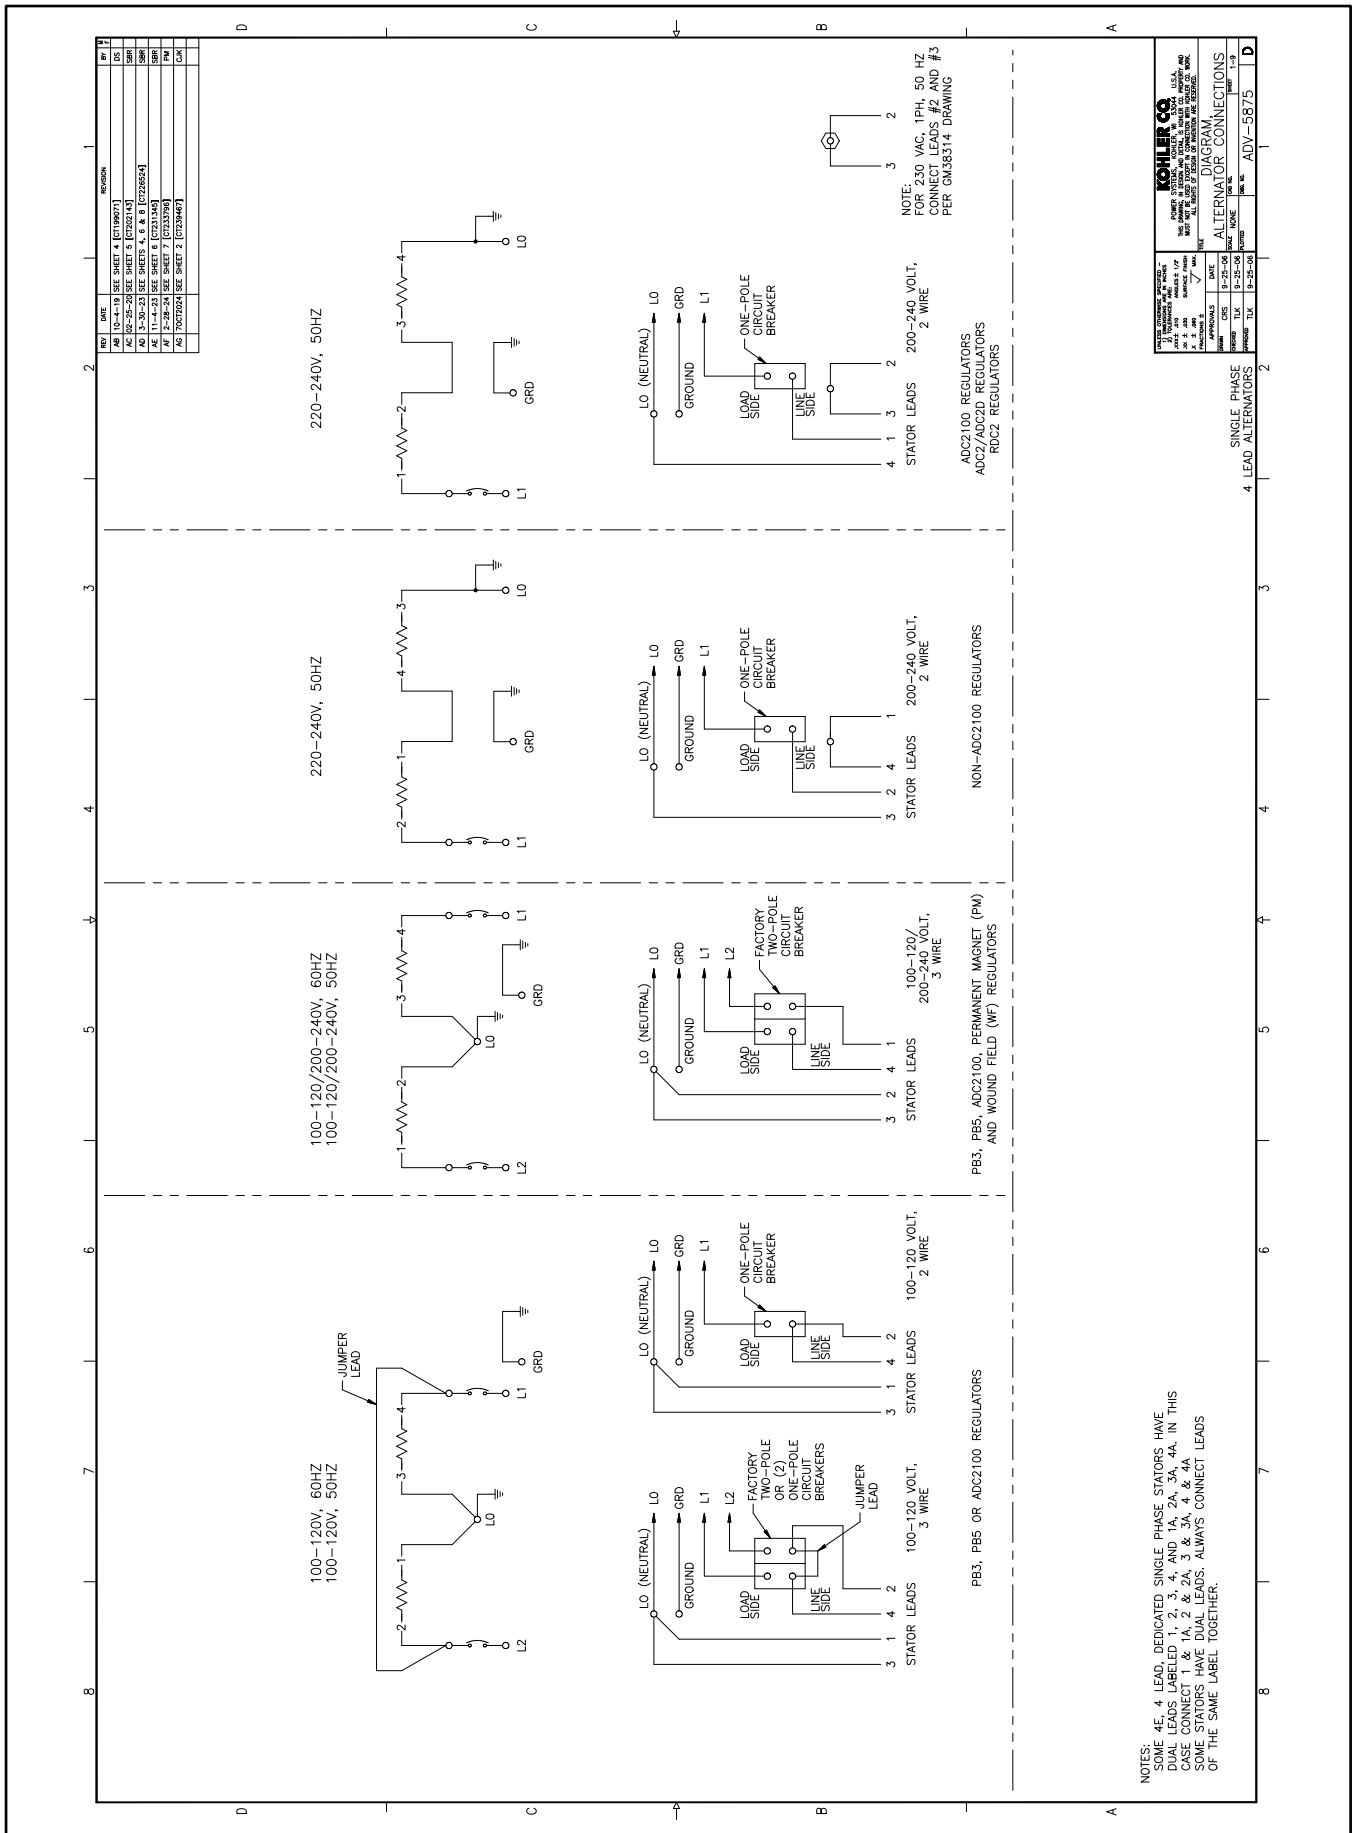
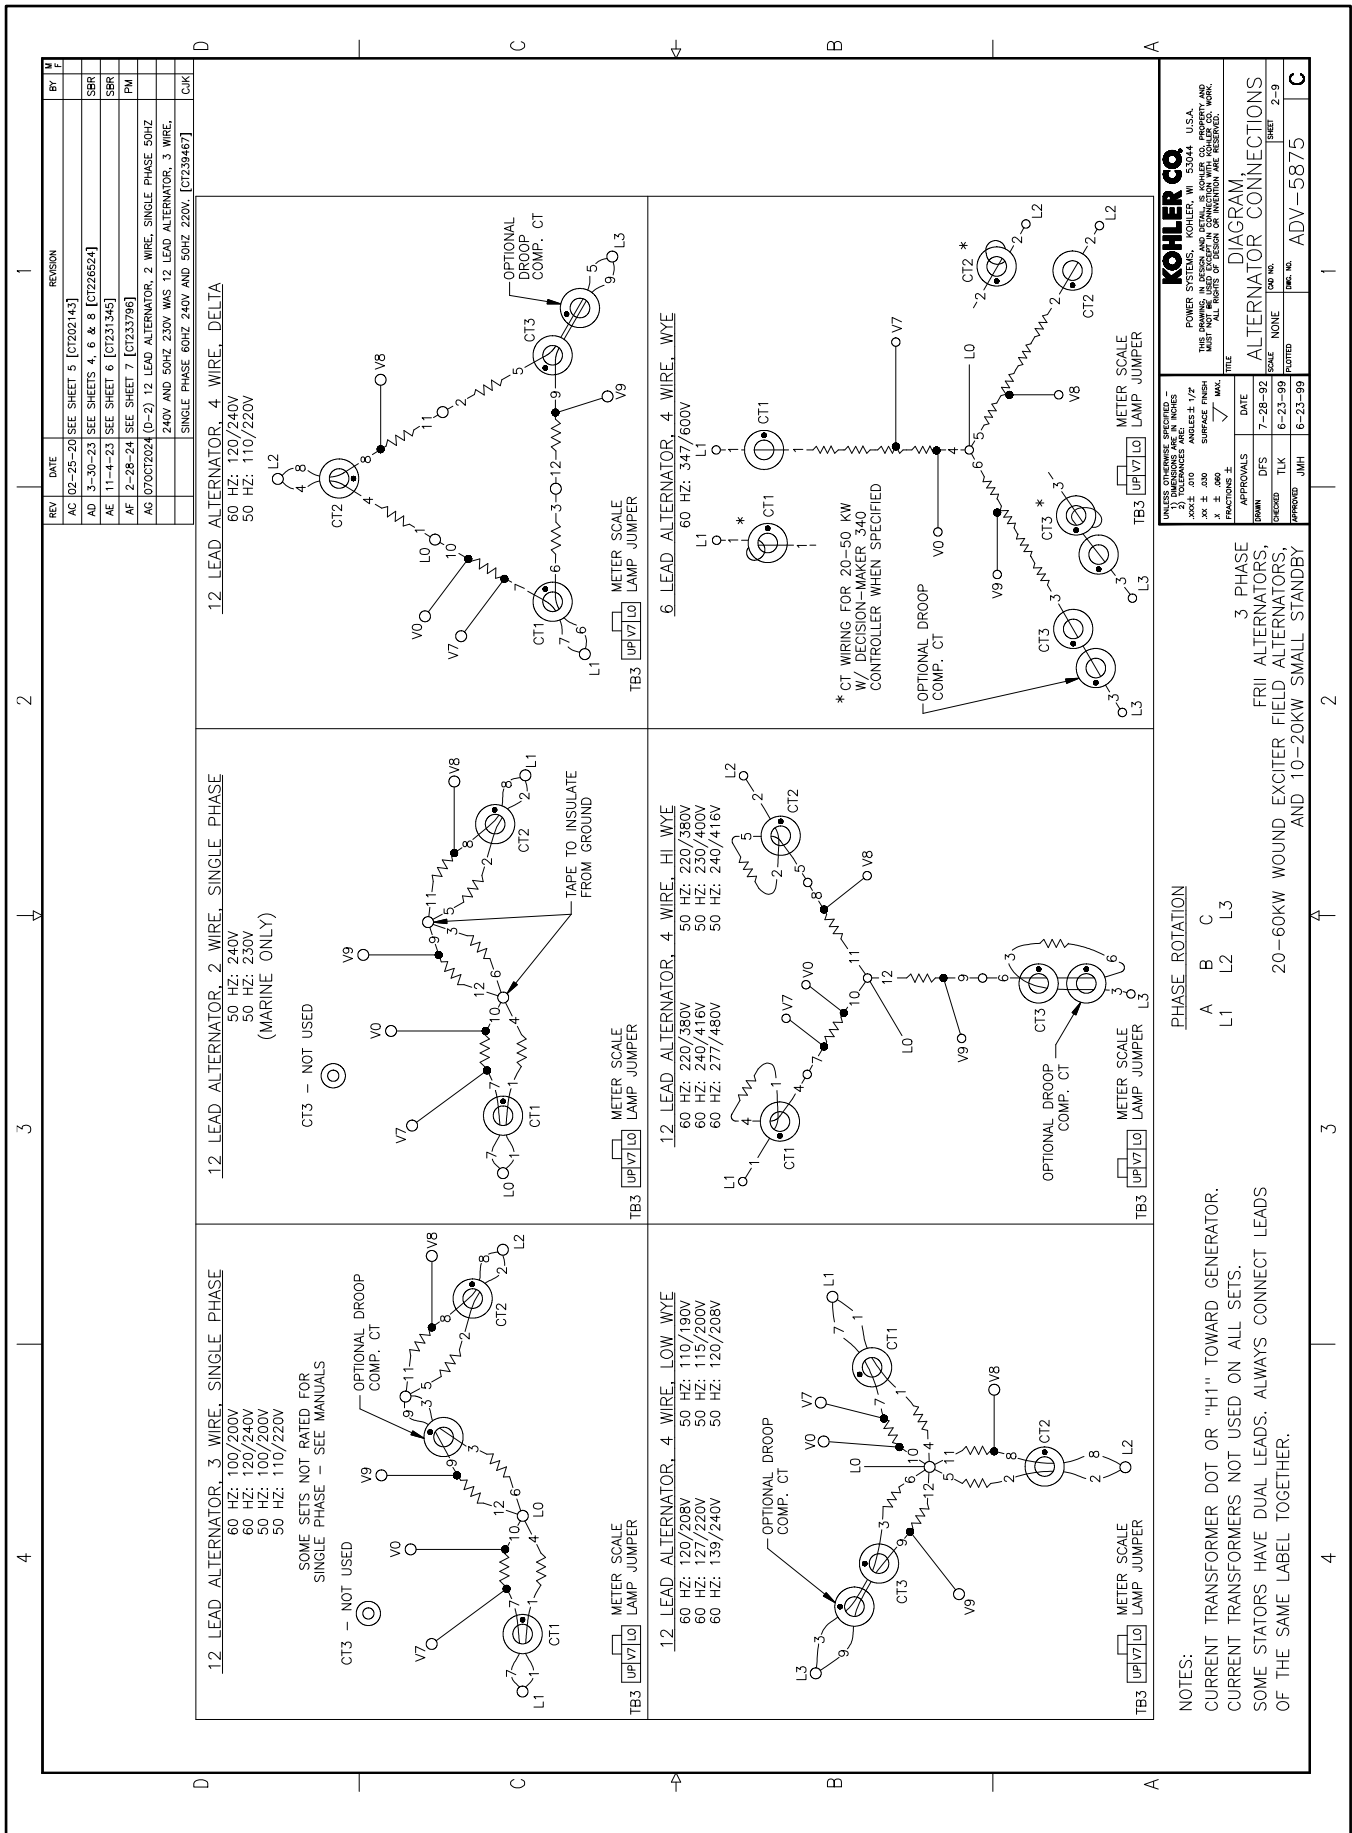

Figure 61 20-150 kW Permanent Magnet Single-Phase Alternators, ADV-5875AG-1
Figure 62 20-300 kW Permanent Magnet Alternators, ADV-5875AG-2
3. Use Figure 61, Figure 62, Figure 63, or Figure 64 to determine the generator set voltage configuration. Note the original voltage and reconnect as needed. Route leads through current transformers (CTs) and connect them according to the diagram for the desired phase and voltage.